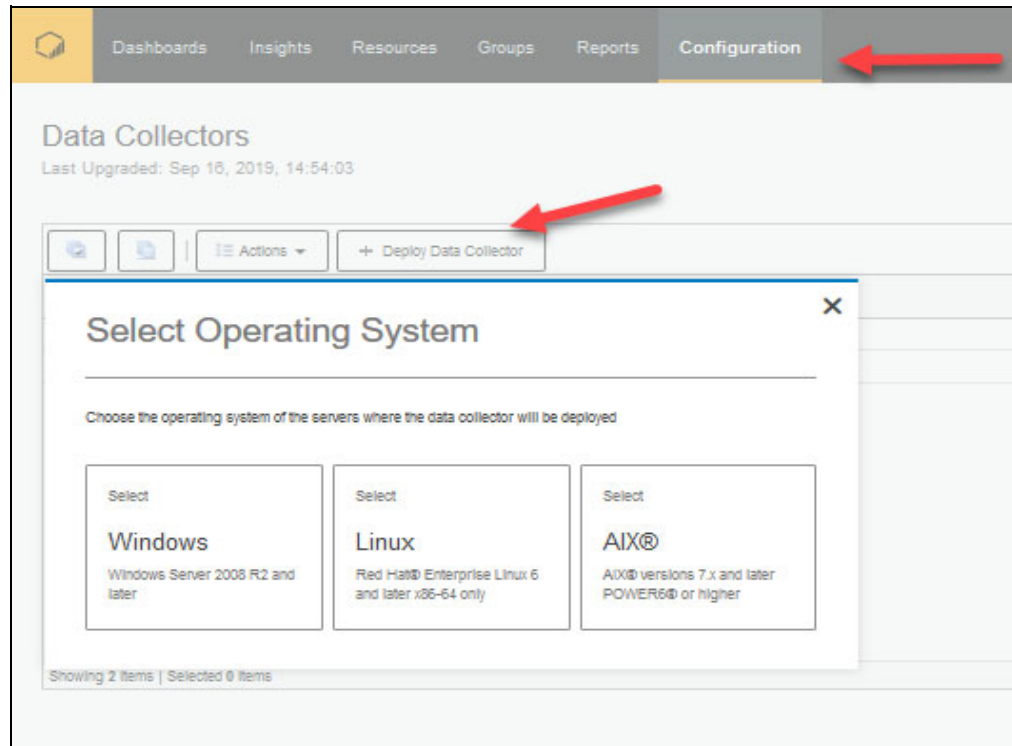

Figure 12-16 Deploy Data Collector
2. Install a data collector in your data center to stream performance, capacity, and configuration metadata about storage systems to IBM Storage Insights. Select **Configuration Data Collectors**, click **Deploy Data Collectors**, and get started, as shown in Figure 12-16:
- b. Extract the contents of the data collector file on to the virtual machine (VM) or server where you want it to run. 1 GB of memory and 1 GB of disk space are required.